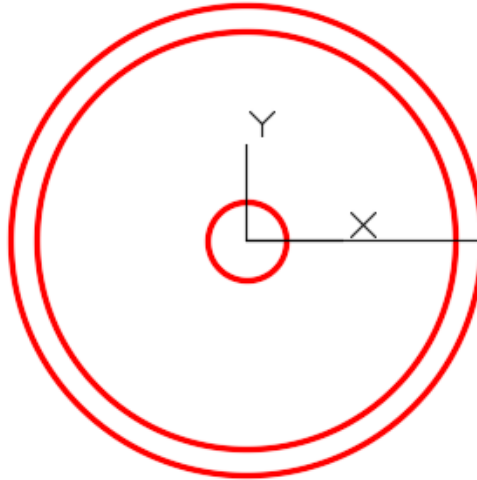

Figure Step 4
Step 4 Set the current UCS to Front and change the current view to Front. Draw three circles and a construction line from the center to the quad as shown in the figure. Take all of the sizes from the multiview drawing. (Figure Step 4)